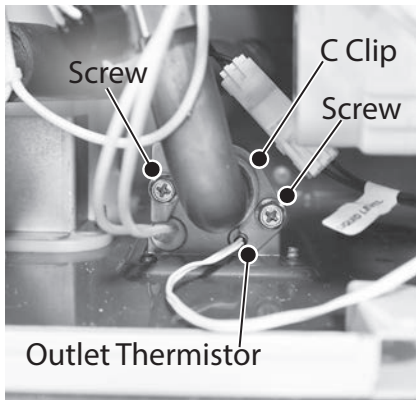

Figure 72 - Outlet thermistor location
- 14** Locate the hot water outlet thermistor and the two screws securing the hot water outlet thermistor. See Figure 72. Use a Phillips screwdriver to remove the screws and the C Clip. Place the screws and C Clip aside in a safe place for reinstallation.
- 19** Install the new water outlet thermistor in the water heater. See Figure 72. Secure with the screws and C Clip removed in **Step 14**.